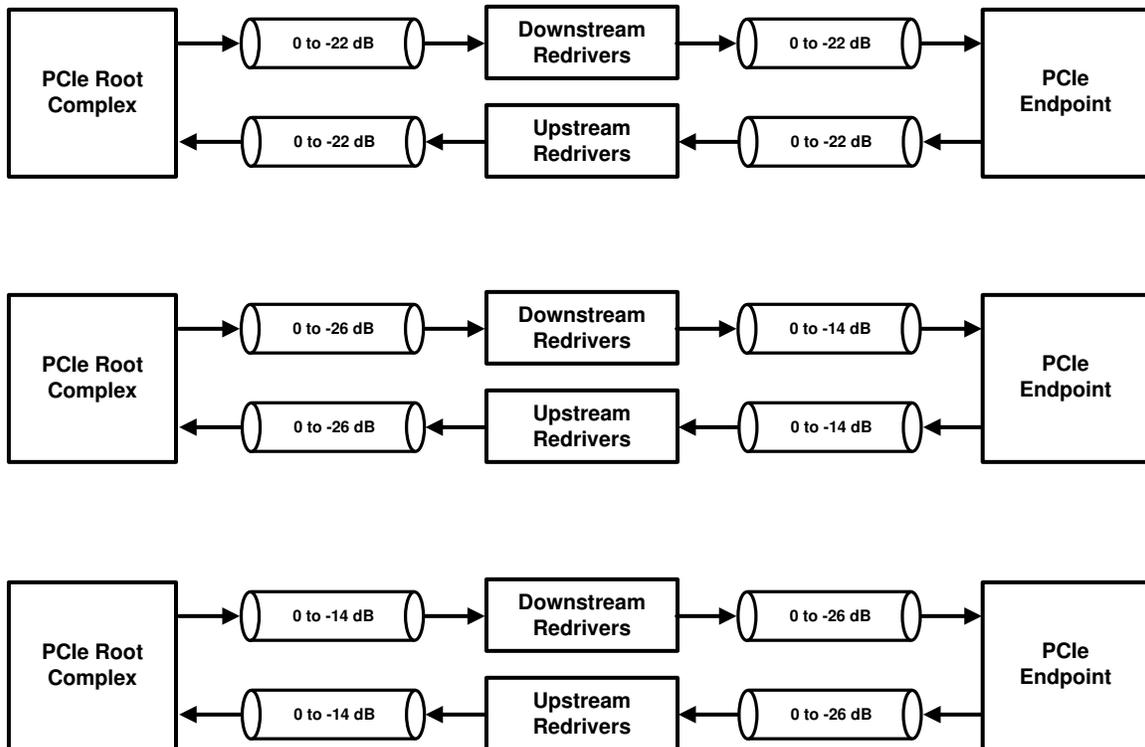

Figure 5-1. Redriver Placement Options: Upstream and Downstream Redrivers at Same Location
- Redrivers placed in the middle of a PCIe link allow for the maximum link extension as suggested in the first block diagram of Figure 5-1.
- Placing redrivers closer than -14 dB to either upstream or downstream PCIe transmitters linearly reduces the maximum reach of the link. As shown in the 2nd and 3rd block diagrams of Figure 5-1, a -40 dB reach is possible with the redrivers placed at -14 dB from either a PCIe root complex or an endpoint. However, placing the redrivers, for example, within -8 dB of a PCIe root complex or an endpoint, limits the maximum link reach to -34 dB.